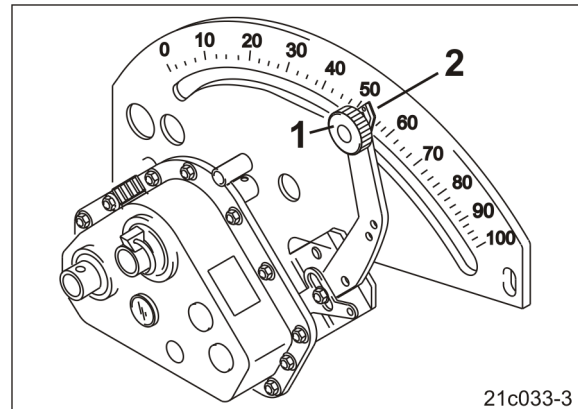

Fig. 172
7. Undo the locking knob (Fig. 172/1).
9. Set the pointer (Fig. 172/2) of the gearbox lever to the gearbox setting value.